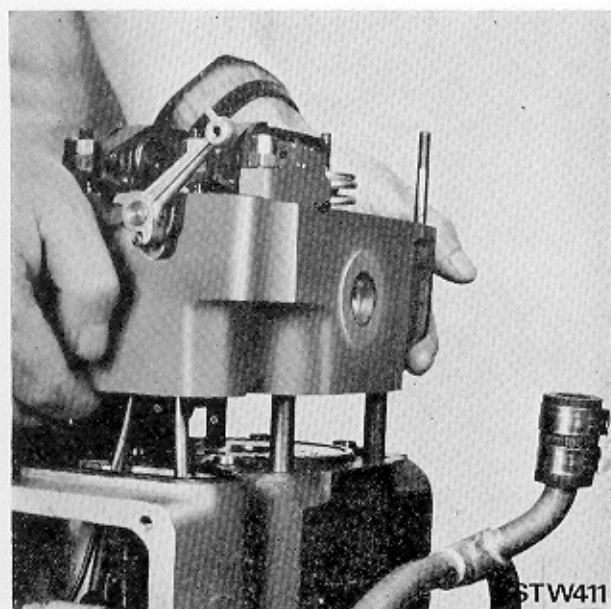

Fig. 73. Removing a Cylinder Head
- (k) Remove the four holding down nuts; lift off head (Fig. 73). Mark cylinder number for refitting and keep shims and gasket with head.